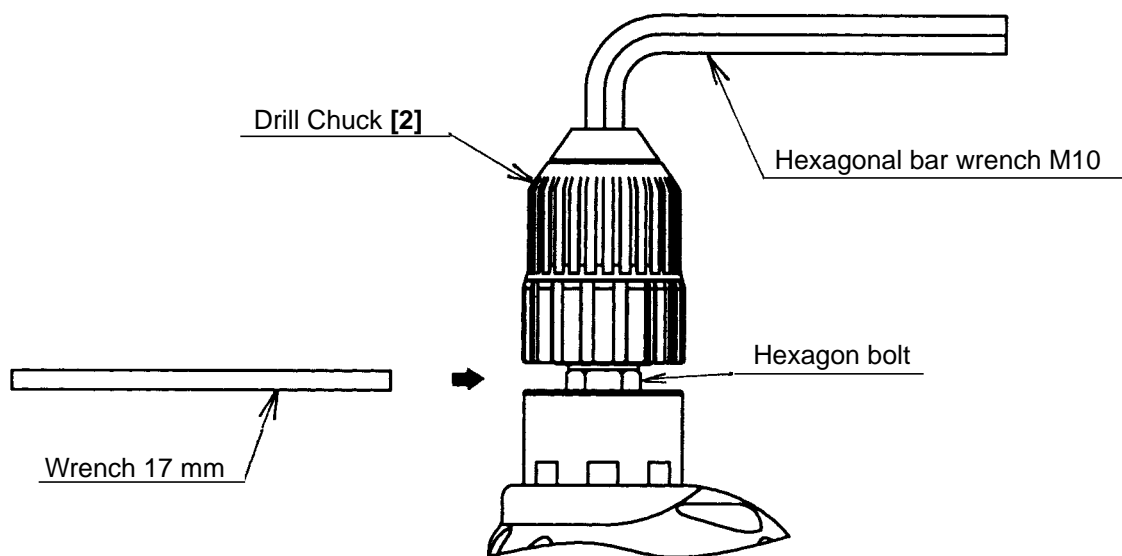

Fig. 7
(1) Removal of the Drill Chuck [2] (See Fig. 7.)
- (a) Fully open the jaws of the Drill Chuck [2], and turn the Flat Hd. Screw (A) (Left Hand) M6 x 25 [1] clockwise and remove it. Take care that it is left-hand threaded.
- (b) Fix the hexagonal bar wrench M10 into the Drill Chuck [2] as indicated in Fig. 7. Next, apply a wrench 17 mm to the hexagon bolt on the spindle to hold it steadily, and remove it by turning counterclockwise. If it is difficult to loosen, use a pipe extension or similar tool.